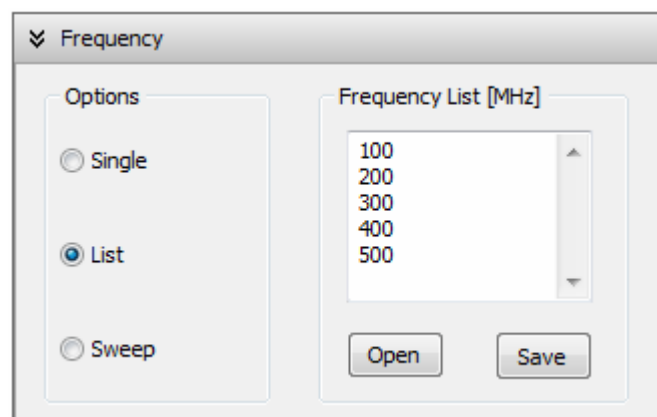

Fig. 4.2: Frequency panel in the Configure tabsheet. A list of frequencies is entered.
- ❑ If **List** is chosen, write the list of frequencies in the “Frequency List” box, Fig. 4.2. A list from a text file can be read by pressing the Open button. The frequency list can also be saved to a text file by pressing the Save button.